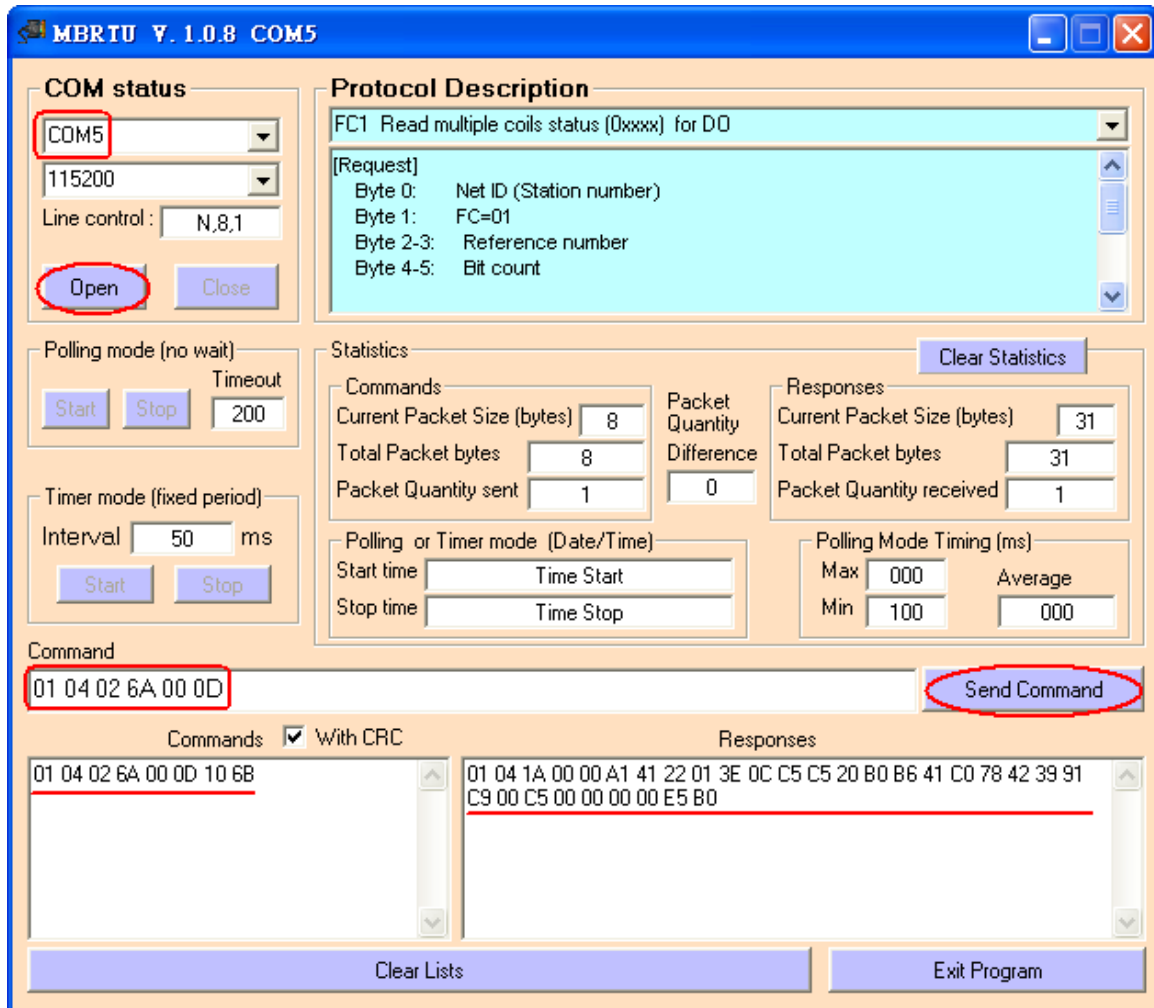

Figure 6-2 Receive HART Command 3 data
- (2) The below demo will use the free MB/RTU tool provided by ICP DAS to show HART command 1 data. (Download from http://ftp.icpdas.com.tw/pub/cd/8000cd/napdos/modbus/modbus_utility/)
- (3) Run “MB/RTU” tool. Set the com port settings the same with HART-710 (Baud Rate / Data Bits / Stop Bits / Parity) and then click “Open” button to connect to HRT-710 like Figure 6-2.
- (4) Input “01 04 02 6A 00 0D” in “Command” field and click “Send Command” button to send the Modbus command. The HART command 3 data will be received in “Responses” field => “01 04 1A 00 00 A1 41 22 01 3E 0C C5 C5 20 B0 B6 41 C0 78 42 39 91 C9 00 C5 00 00 00 00 E5 B0” like Figure 6-2.